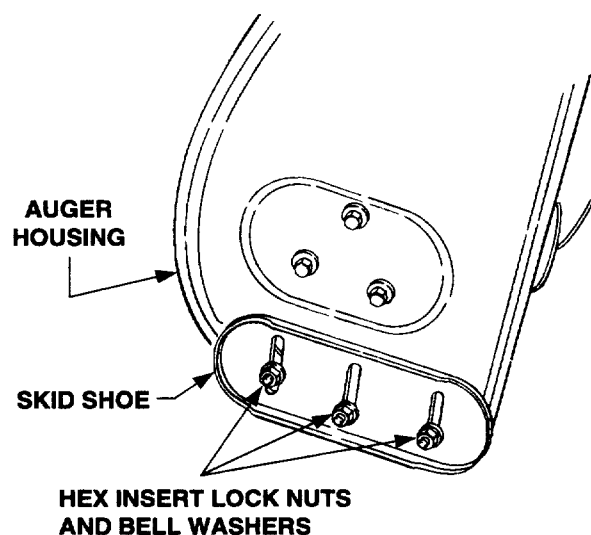

Figure 14
- Move the skid shoes up or down to the desired position and securely tighten the lock nuts. Adjust both skid shoes to the same height. Refer to Figure 14.